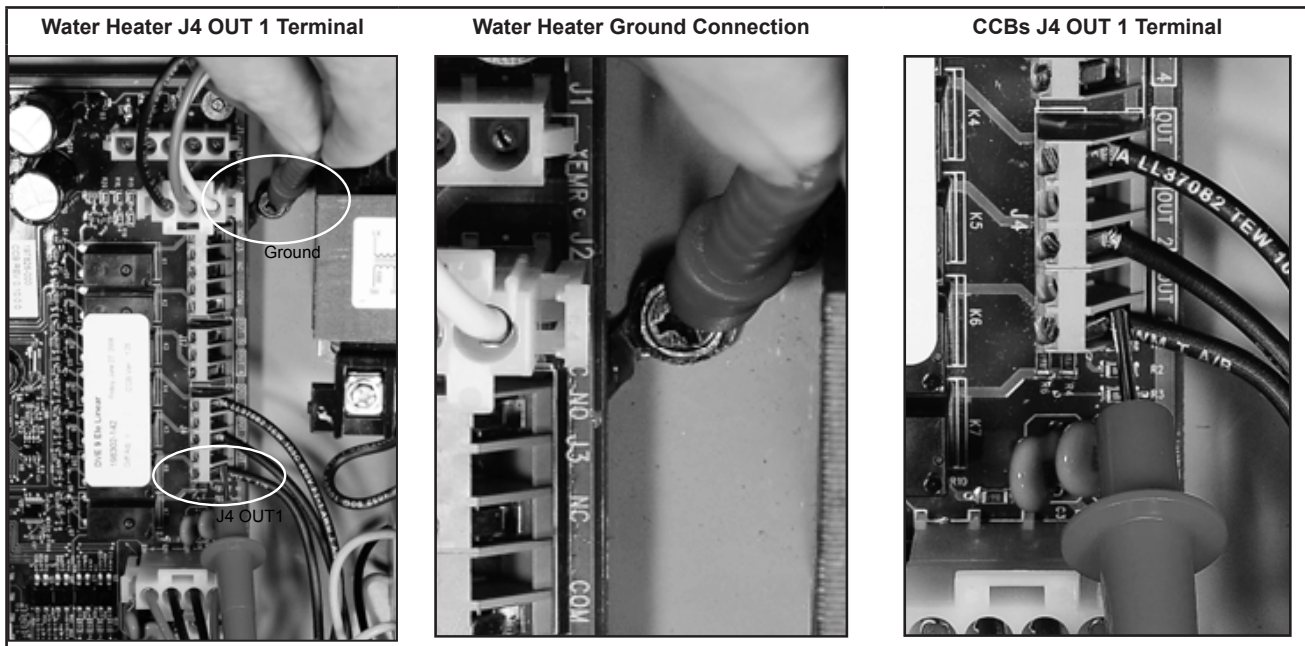

Figure 31. Checking Contactor Coil Voltage at the CCB's J4 & J17 Wiring Terminals
4. Touch one of the two volt meter probes to the ground wire connection on the water heater. Touch the other volt meter probe to the CCB's J4 OUT 1 wiring terminal. See the images in **Figure 31**. On water heaters equipped with more heating elements, also check between the ground connection and the CCB's J4 OUT 2 wiring terminals and on water heaters equipped with 9 elements also check between ground and the CCB's J4 OUT 3 wiring terminal. Measure and record voltage readings taken in this step.